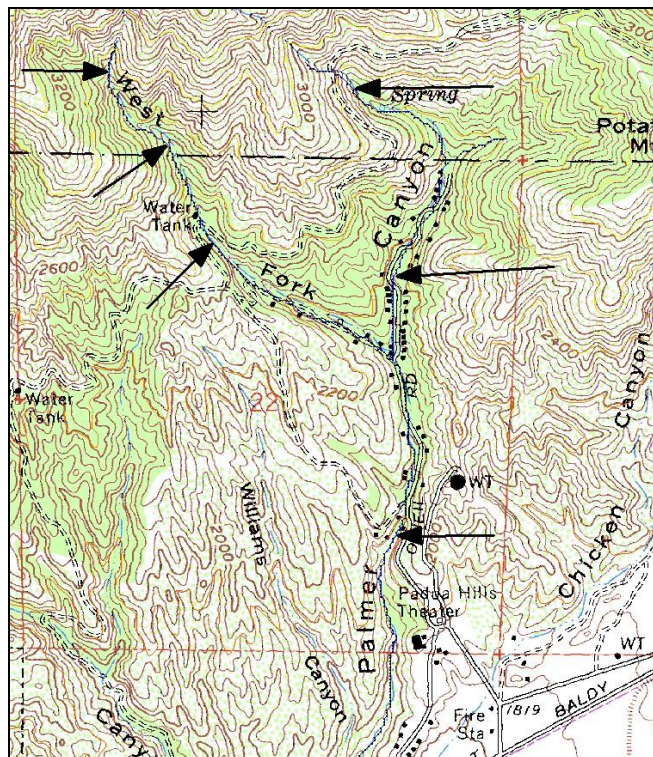

Figure 4-3: Create outlets at each location indicated
28. Point and click to create an outlet point at each of the 6 locations on the stream arcs indicated in Figure 4-3.